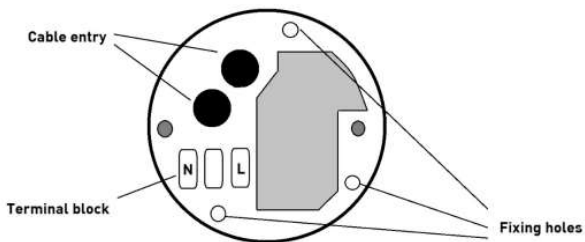

Fig. 1
- Feed the mains cable through the rubber grommet to retain IP rating, and secure the baseplate to the surface using the plugs and screws, provided (see Fig. 1)